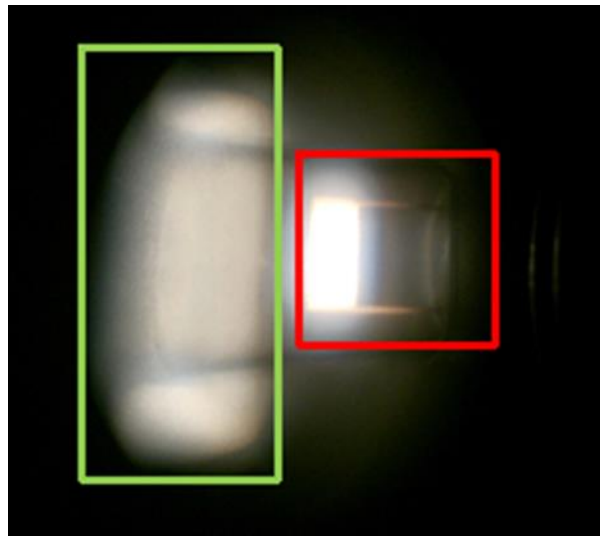
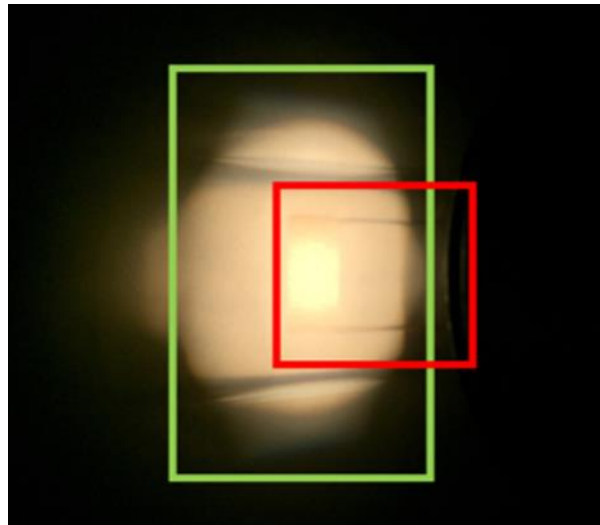

Figure 41: QTH lamp primary image (red box) and secondary reflected image (green box).
Figure 42: QTH lamp reflected secondary image superimposed onto primary image.
11. A reflector is located behind the lamp inside the lamp housing. The position of the reflector is adjusted using the knobs located on the side of the lamp housing, as shown in Figure 41 the lamp's reflected image is referred to as the "secondary image".
12. Figure 41 shows the lamp's primary image in the red box and the secondary image in the green box. Using the reflector adjustment knobs, ensure the secondary image is as sharp as possible. This may require loosening the condenser lens assembly adjustment knob and defocusing the primary image of the lamp filament, in order to achieve a sharper image of the filament's secondary image. Then overlay or superimpose the reflector's secondary image of the lamp onto the primary image of the lamp filament (see Figure 42). See Figure 39 for reference on how the secondary image is displaced relative to which knob is adjusted in each direction.